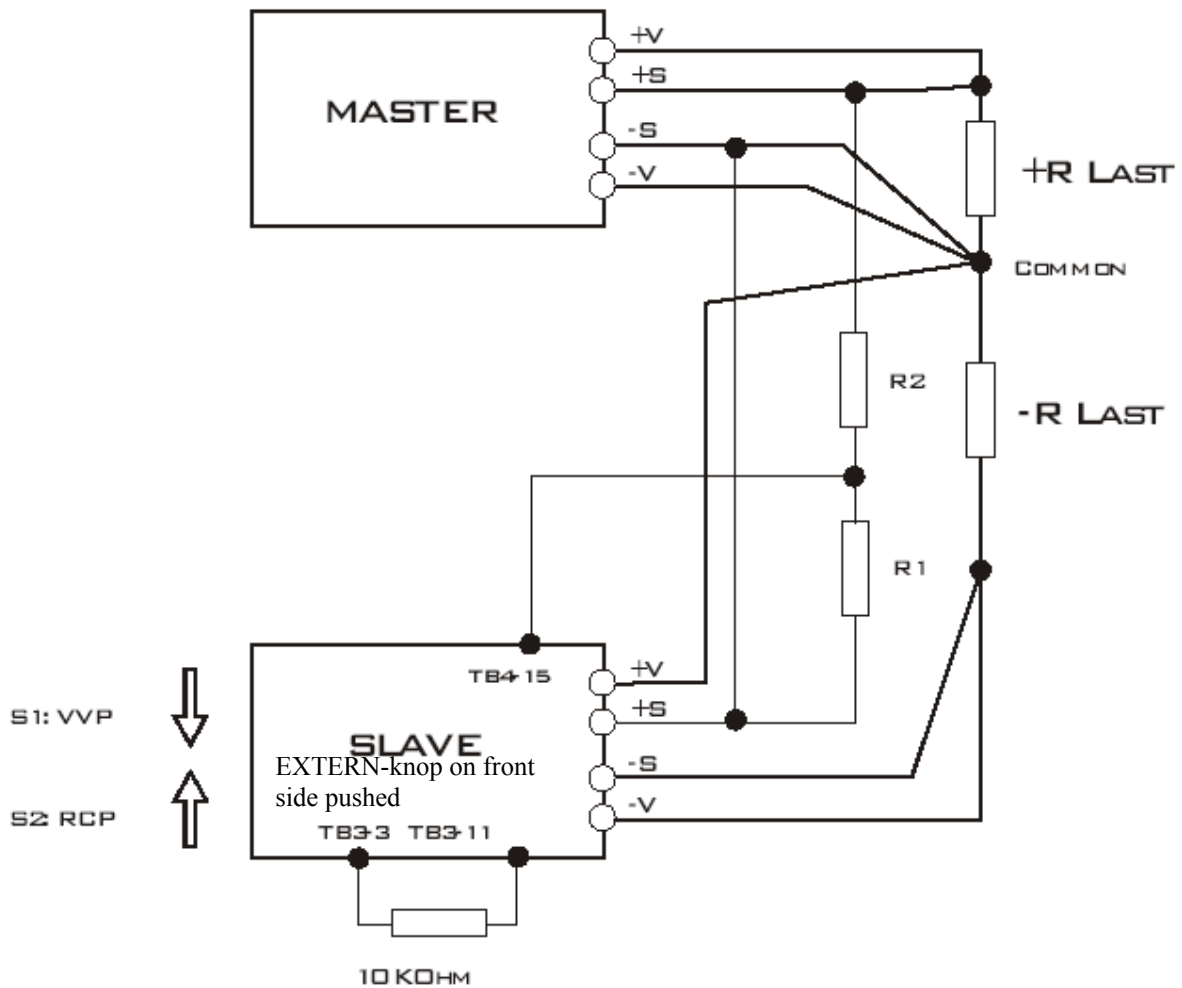

Fig.10
The tracking mode permits to structure a symmetric power supply. For this, two ATLAS units are necessary, the units with positive output acts as master. The configuration is given in fig.10.
8. Between +S from master and +S from slave two resistors in series (R1, R2, see fig.10).
They should have a temperature coefficient of less than  $20\text{ppm}/^\circ\text{C}$  and should be oversized ( $> 2\text{W}$ ), in order to avoid stability faults. R1 should have a value between  $1\text{Kohm}$  and  $10\text{KOhm}$ , R2 is given by the formula from fig.10.
In the configuration shown in fig.10, the currents flowing through +R load and -R load must not be equal. The master can limit only the current through +R load. The current limit from slave can be set with a resistance (< 10KOhms), connected between TB3-3 and TB3-11 (see chapt 3.6.1). Power must be switched on and off simultaneously on both units.